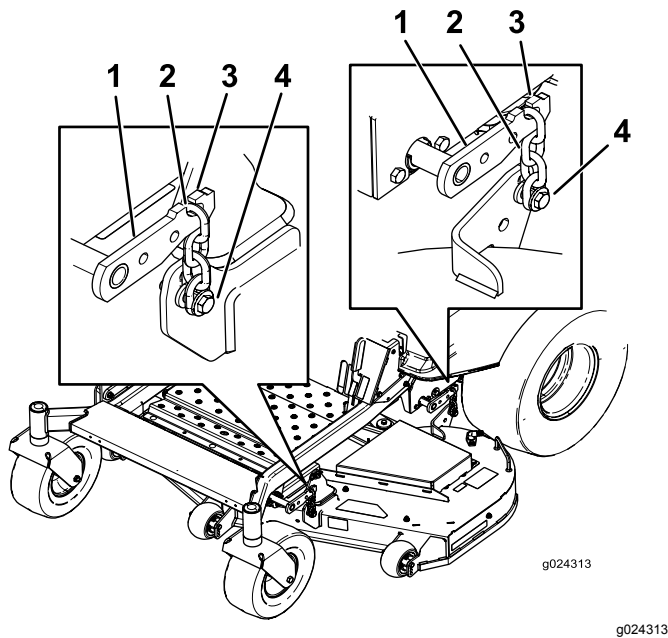

Figure 64
5. Loosen the adjustment bolts on all four corners so that the deck is sitting securely on all four blocks (Figure 64).
6. Ensure there is tension on all four chains (Figure 64).
7. Tighten the four adjustment bolts (Figure 64).